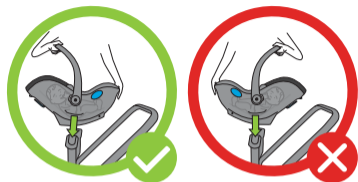

Figure 75
- With the child properly secured in the Carrier, position the Carrier so that the Stroller Attachment Points on the Carrier are positioned directly above the stroller car seat adapters, and lower Carrier onto the adapters, as shown in **Figure 75**.